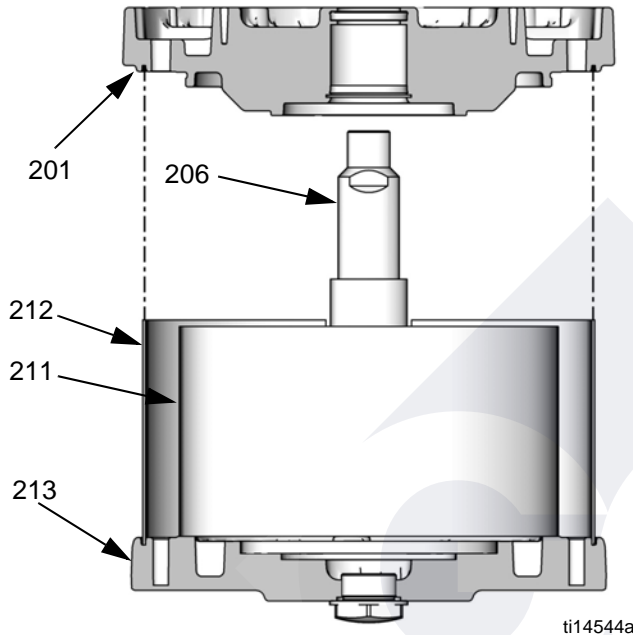

FIG. 21
1. Lubricate and install the o-ring (209) on the top cover (213).
2. Install the upper bumper (228) on the top cover.
3. Lubricate the inside of the cylinder (211). Lower the cylinder onto the top cover (213).
4. Lubricate and install the o-ring (208) around the piston (205).
5. Slide the piston assembly down onto the cylinder (211). Be sure the o-ring (208) stays in place.
6. Install the shield (212) around the cylinder (211) and in the groove on the top cover (213).
7. Lubricate and install the new u-cup seal in the bottom of the bearing (202) in the bottom cover (201). The u-cup must face up and the flange face down. See FIG. 21.